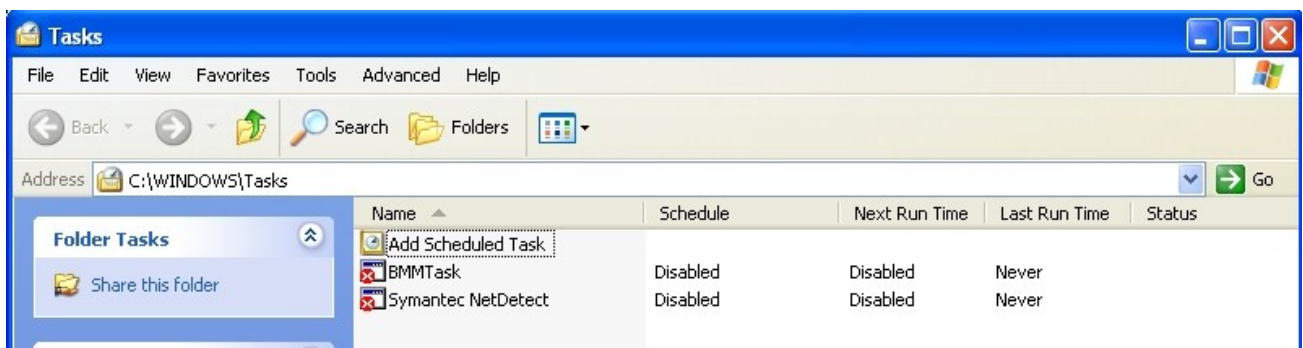

Figure 8: Windows Task Manager opens up when the ‘Run RIOTS Batch File’ button is clicked.
15. To use the Windows scheduler, click on the red ‘Run RIOTS Batch File’ button in the lower row of the main (Velfile and Hitfile display) graphical user interface (Figure 2c). The Windows Task Manager shown in Figure 8 opens up.